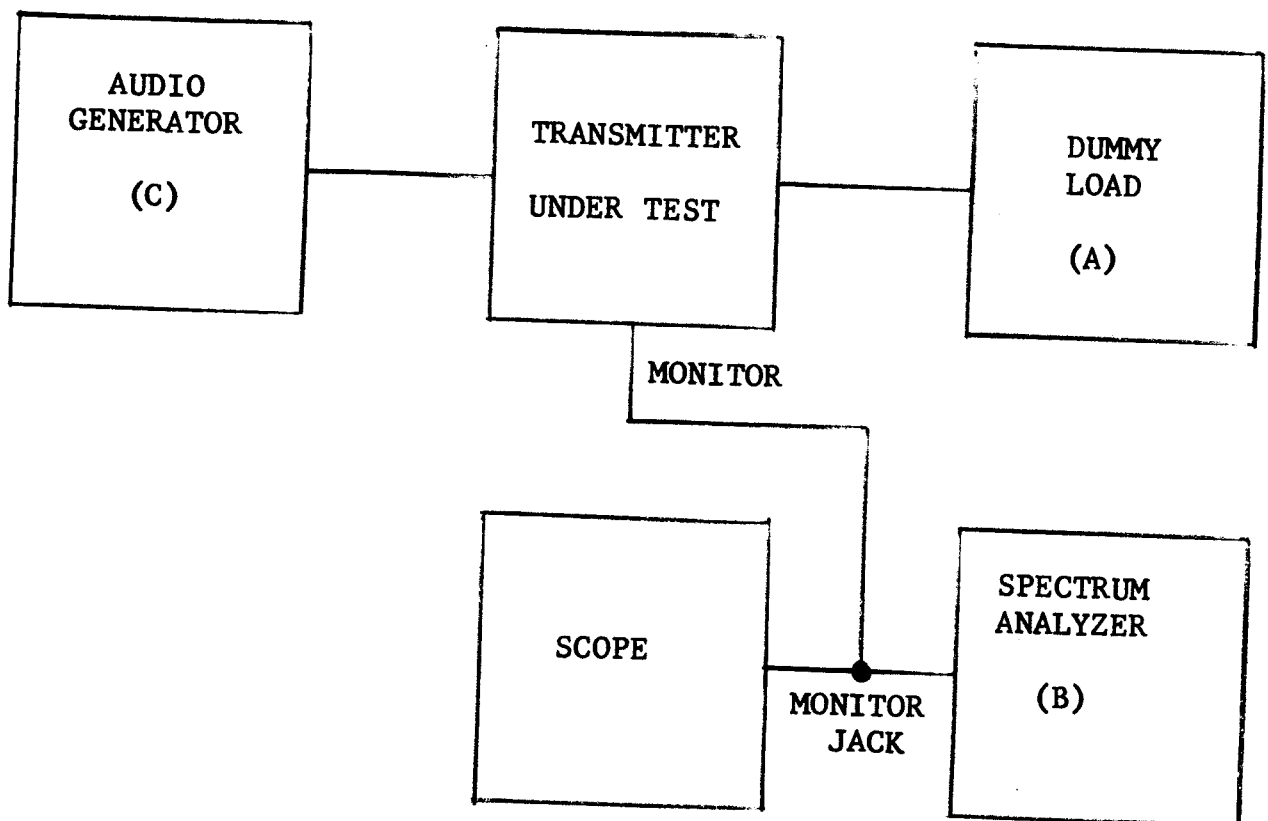

FIGURE 2.4
- a. Connect the equipment as shown in Figure 2.4.